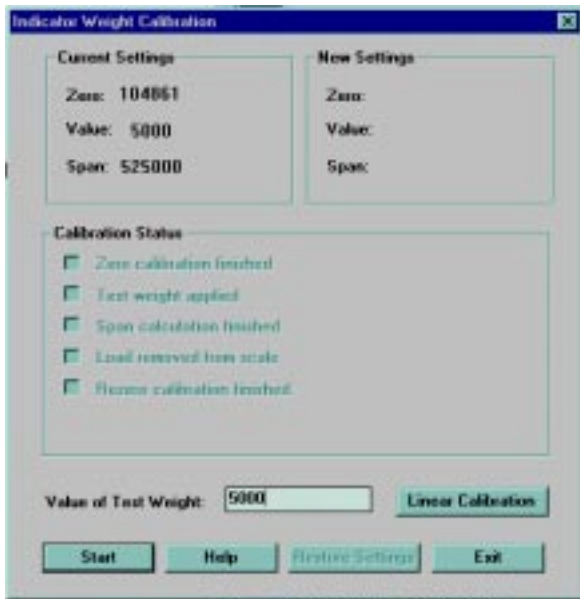

Figure 4-2. Revolution Scaleware Calibration Display
3. Revolution Scaleware uploads calibration data from the indicator then presents the information in a display like that shown in Figure 4-2.